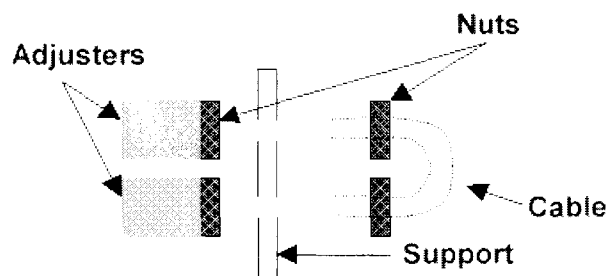

Figure 1
- Use the 8 mm open end wrench to unscrew the nuts of the cable adjusters on the Trendelenburg/Reverse Trendelenburg handle so that what you get matches figure 1, then release the cable from